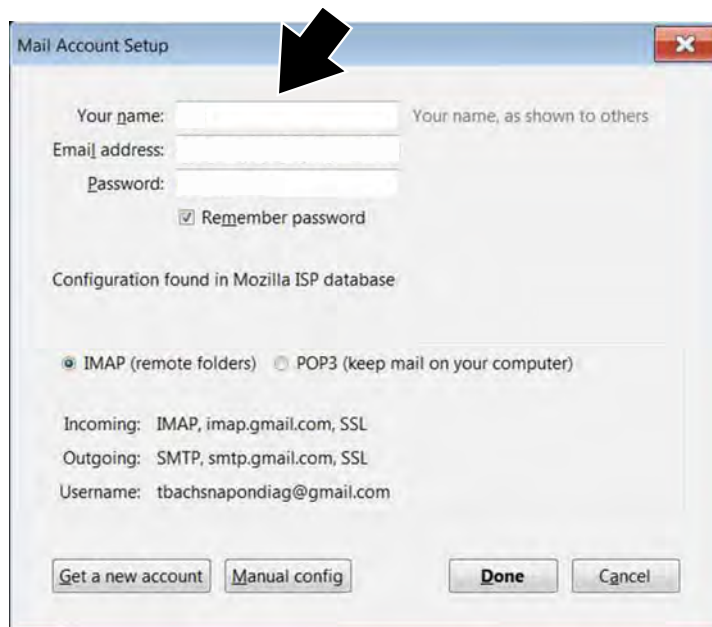

Figure 12-13
5. Enter your e-mail information as required (Figure 12-13).